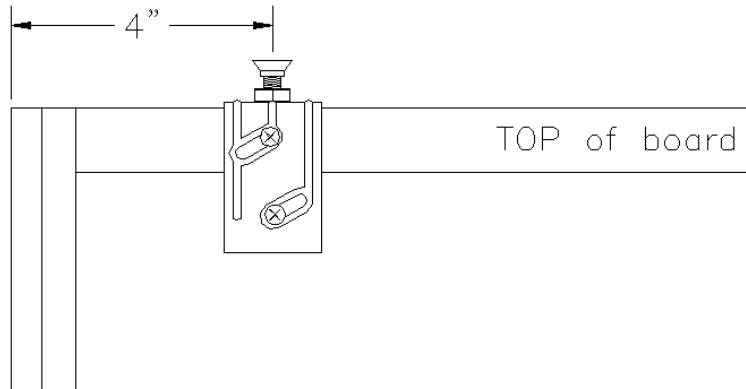

Fig 2
Step 8: Install hanging brackets on slider panels. Install the hanging brackets onto each panel using the predrilled holes (See Fig 2). Each hanger is marked with a number that corresponds to a matching number on the back of the panel frame. Install the hanger marked “1” to the mounting holes labeled “1” on the panel trim, hanger “2” on frame location “2” and so on for each bracket.